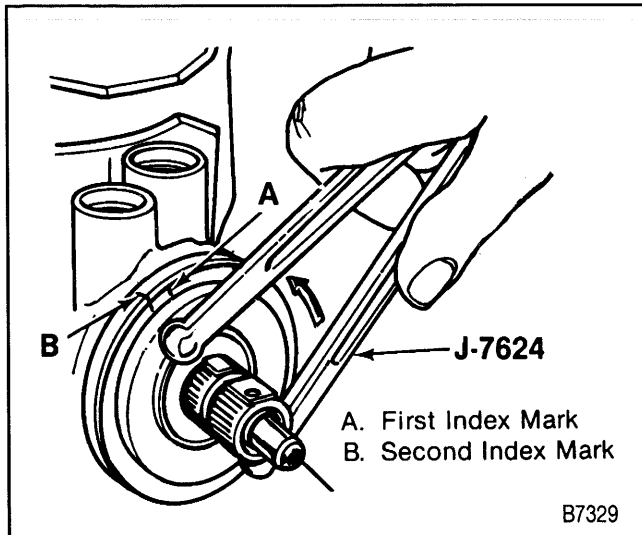

Figure 9—Aligning the Adjuster to the Second Mark
5. Rotate the adjuster plug back (counterclockwise) until the hole in the plug is aligned with the second mark on the housing (figure 9).